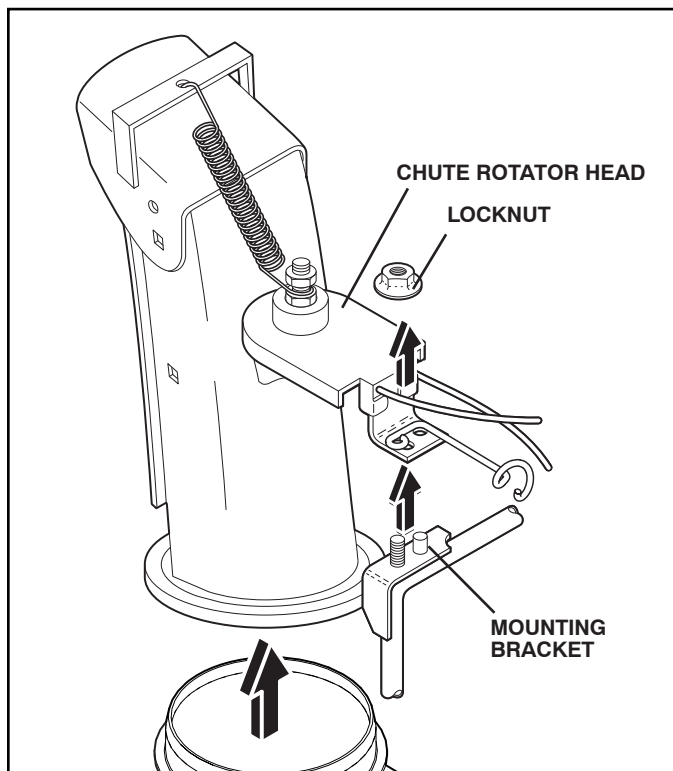

FIG. 20
2. REMOVE DISCHARGE CHUTE - Remove lock nut securing chute rotator head to mounting bracket to allow chute rotator head to be raised and discharge chute to be removed from snow thrower. See Fig. 20.